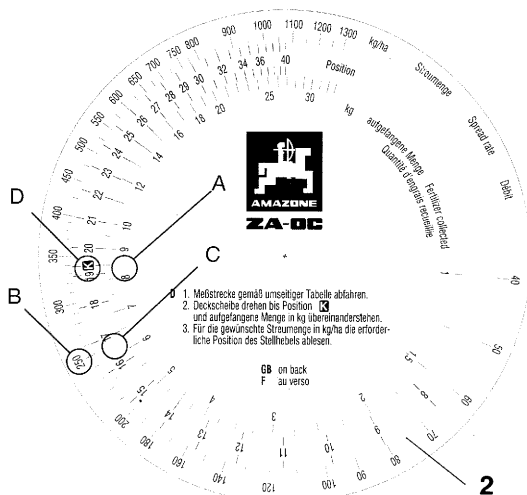

Fig. 7.9
- For the desired working width (**12 m**) read off the table (Fig. 7.8/1) of the Nomogram (Fig. 7.8) or from the table (Fig. 7.9/1) on the back of the disc rule (Fig. 7.9/2) the required calibration distance (**41,6 m**). Measure accurately the test distance in the field and mark starting and end point.
- For the collected weight of fertiliser (8.5 kg) find the figure on the inner scale (Fig. 7.9/A) and align with the shutter slide position „K“ (Fig. 7.9/D) of the middle scale „C“.
- Look for the desired spread rate (250 kg/ha) on the outer scale (Fig. 7.9/B) and read off the required shutter slide position „16.6“ on the middle scale (Fig. 7.9/C).